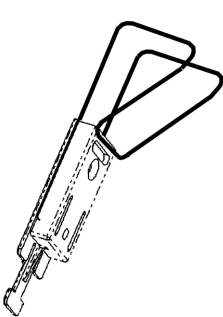

Fig. 23 - Bed Bracket
1. Use wire bracket (Cat. No. 8276), included in your package, for headboard/footboard mounting (see Fig. 23).